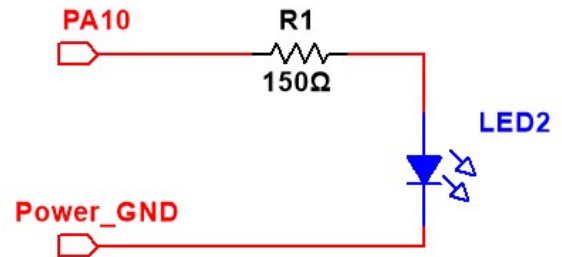

Figure 12: LED2 Circuit
- Build the resistor/LED circuit in Figure 12. The cathode of the LED is connected to ground (GND in connector CN6) and the resistor is connected to PA10 on CN9.